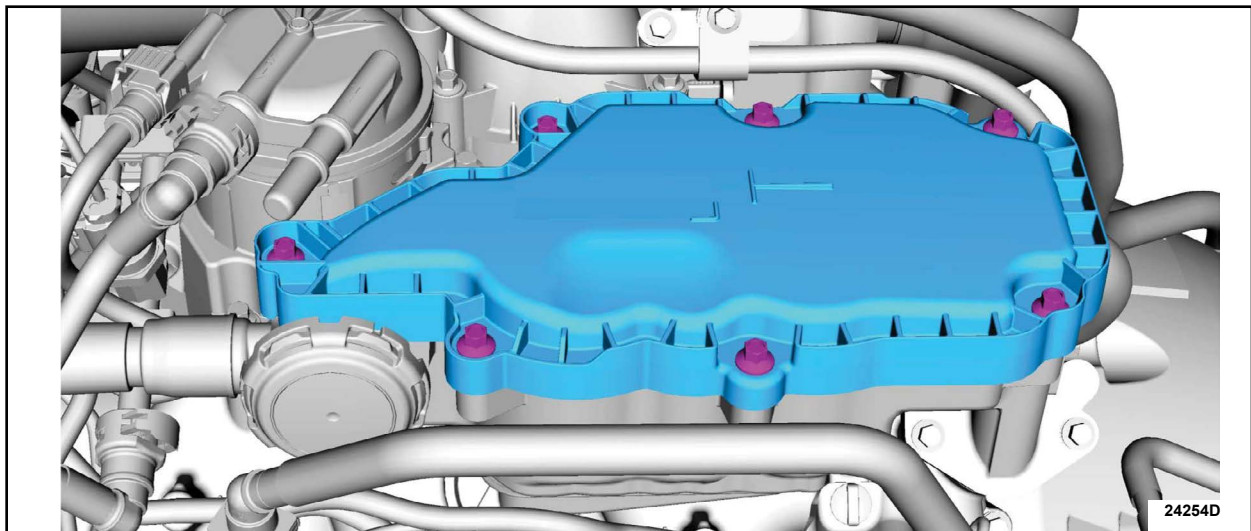

FIGURE 1
1. Inspect the crankcase vent (CCV) oil separator for a serviceable filter element. See Figure 1. Does the CCV oil separator contain a serviceable filter?